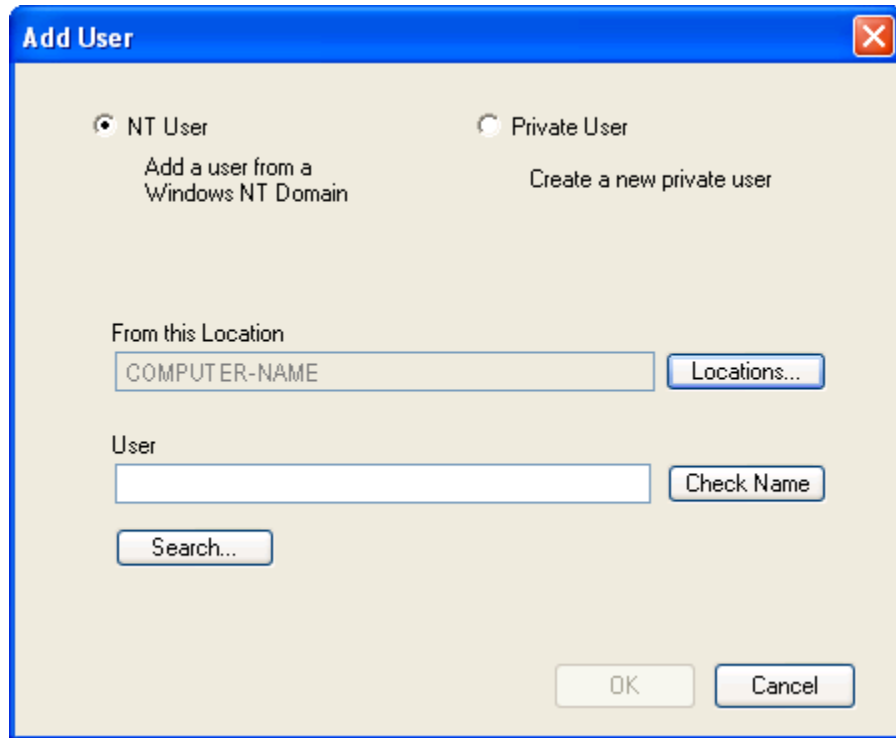

Figure 80 - Add User Window (NT)
2. The **Add User** window (Figure 80) appears. The **NT User** option button is selected by default. This will allow the addition of a user from a Windows NT Domain.
2. The **Add User** window (Figure 80) appears.